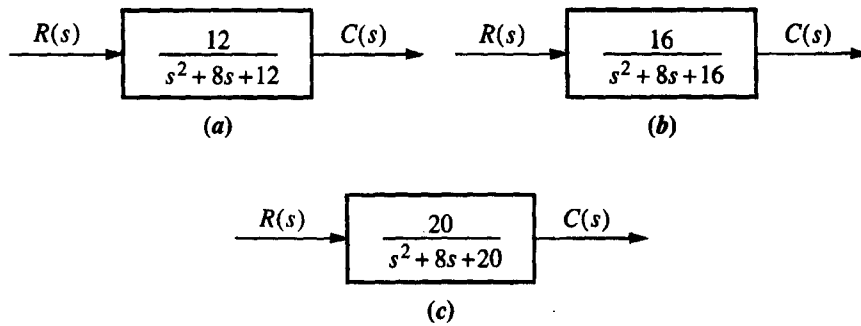

Figure 2
**Question #2** (15 marks) For each of the systems shown in Figure 2,